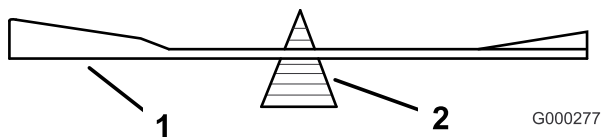
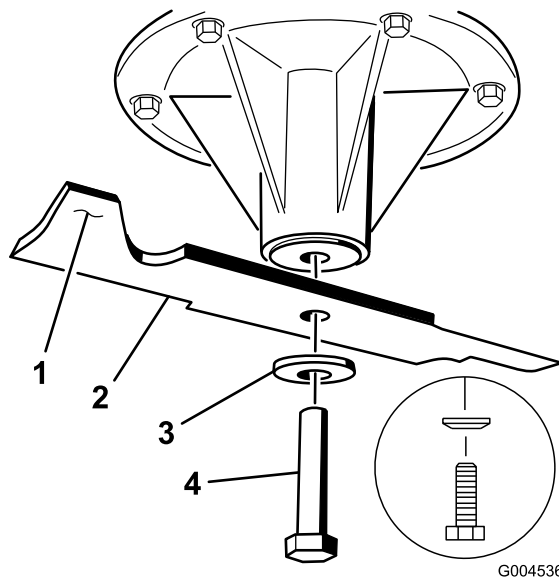

Figure 95
Figure 96
2. Check the balance of the blade by putting it on a blade balancer (Figure 95). If the blade stays in a horizontal position, the blade is balanced and can be used. If the blade is not balanced, file some metal off the end of the sail area only (Figure 96). Repeat this procedure until the blade is balanced.
1. Install the blade onto the spindle shaft (Figure 96).
2. Install the spring disk and blade bolt. The spring disk cone must be installed toward the bolt head (Figure 96). Torque the blade bolt to 85-110 ft-lb (115-150 N-m).